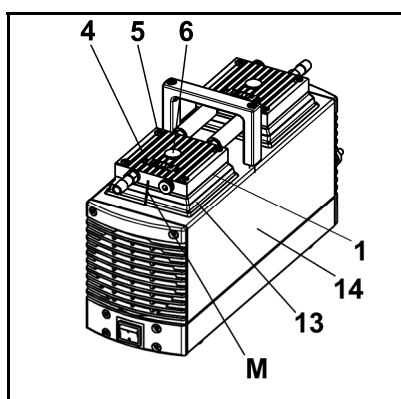

Fig. 12: Remove pump heads
1. Place the two pump heads that are joined by the pneumatic connecting tube on the housing according to the markings (M).
**i** Make sure the cover (fig. 12/13) is placed on the pump head and is not jammed. For this, carefully slide a small screw driver between the cover (13) and the pump head.
**i** If the cover is jammed between the intermediate plate (1) and head plate (4), then the pump will not provide the nominal pneumatical performance.
2. On both pump heads: Gently tighten the screws (5), evenly and diagonally (tightening torque: 3 Nm)